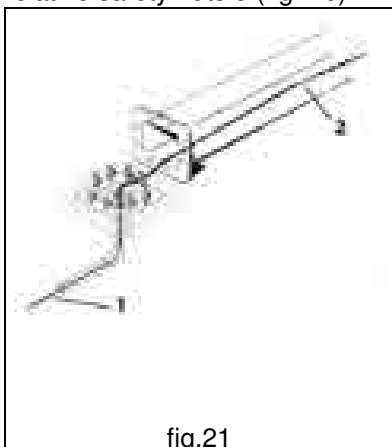

fig.21
- a. In the case of cable **1** which comes out of the allocated tub (pipe) in the plinth, insert the cable directly inside the column until it reaches hole **2** at the end of the column (fig.21)